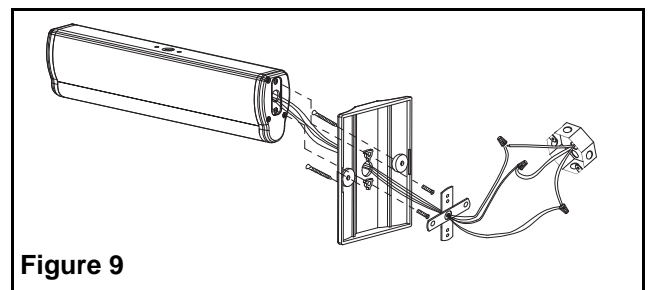

Figure 9
- d. Using provided screws, tighten canopy to the crossbar (see figure 9).